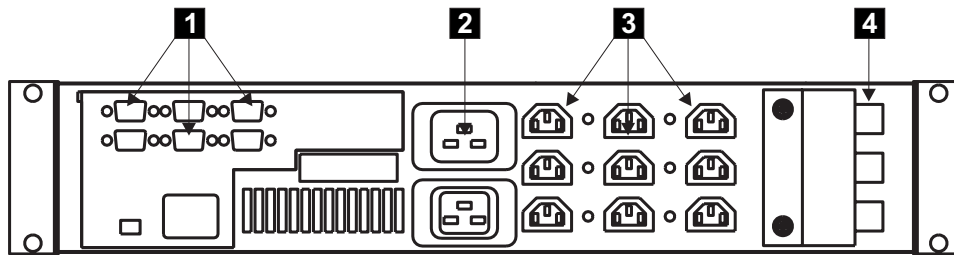

Figure 161. 2145 uninterruptible power supply (rear view)
2. At the back of the 2145 UPS (Figure 161 on page 376), disconnect the power cables of the SAN Volume Controller **3**.
4. Disconnect the main power cable **2** (Figure 161).